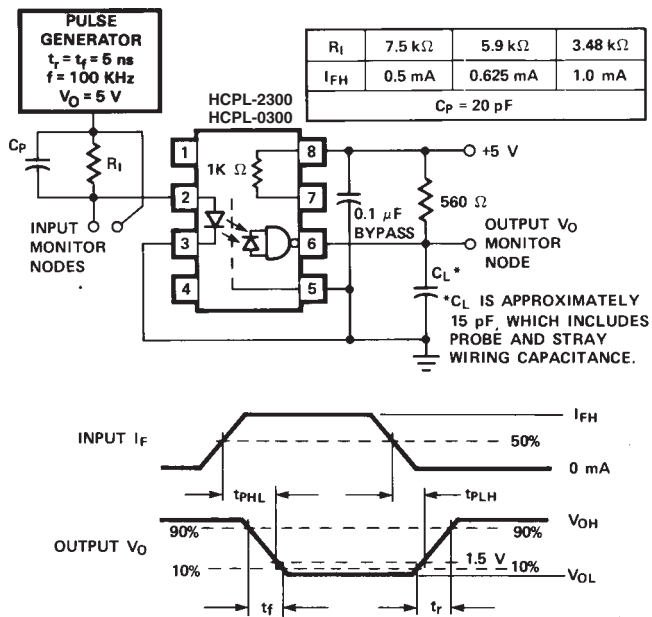

Figure 8. Test Circuit for  $t_{pHL}$ ,  $t_{pLH}$ ,  $t_r$ , and  $t_f$ .
- $C_{\text{P}}$  is the peaking capacitance. Refer to test circuit in Figure 8.